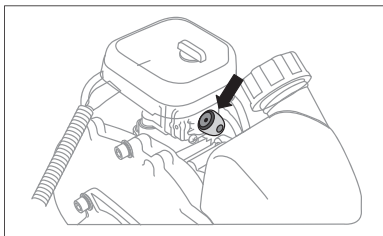

fig. 8
3. Press the transparent manual fuel primer (primer) located between the air filter and the fuel tank five or seven times to fill the carburetor with the fuel mixture. (fig. 8). In this case, the pumped fuel mixture should be seen through the transparent button cap. If the fuel mixture does not fill the cap, press the primer several more times.